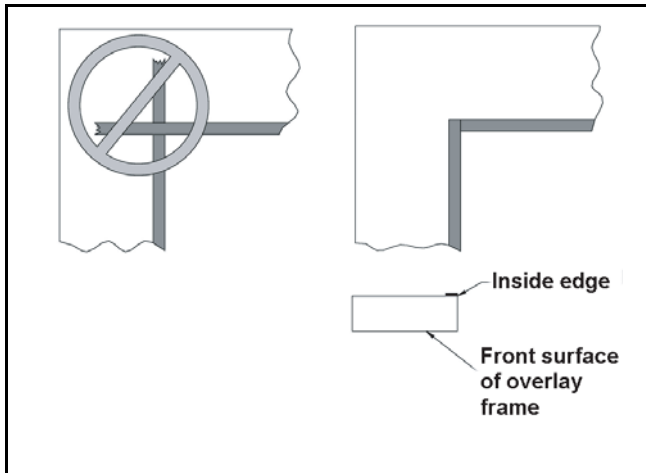

Figure 14
4. Remove adhesive protection strip from one piece of the cut foam and align the edge of the foam tape to the inside edge of the overlay as shown, adhering the foam tape to the overlay (**Figure 14**).
5. Trim each piece of tape immediately after applying it to the overlay. Do not allow any overlapping of the foam tape. Damage to the overlay can occur if the foam tape is not trimmed correctly (**Figure 14**).